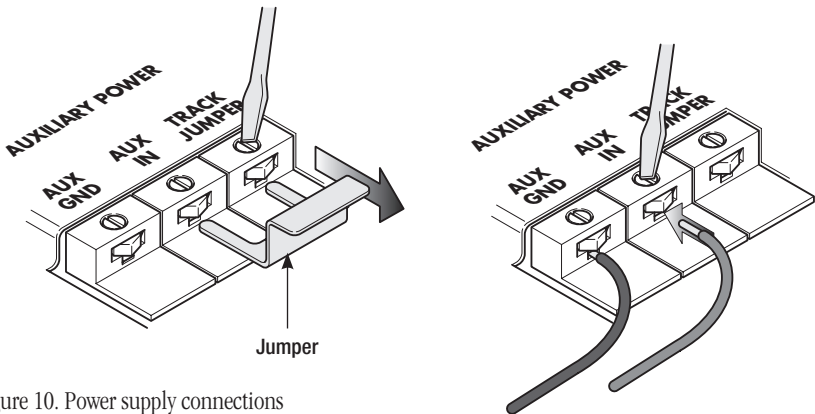

Figure 10. Power supply connections
You may choose to connect the switch to a separate power supply to operate the switch when track power is off or set to a low voltage. This is most beneficial to those operating in the conventional environment. The switch operates best at 5-18 volts (AC). Follow these steps and refer to Figure 10 to make the proper connections.